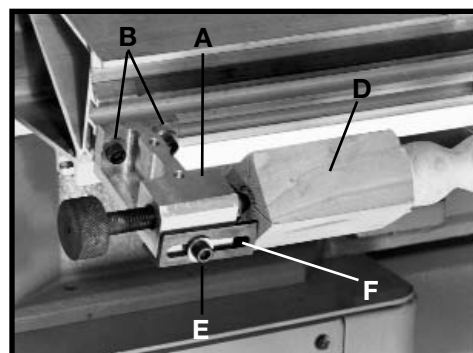

Fig. 74
2. The holding brackets, one of which is shown at (A) Fig. 74 can be moved to any area along the duplicator guide rail, depending on the size of the original turning or template. To adjust the holding bracket, loosen two hex head cap screws (B) and slide bracket (A) to the desired position along the rail, then tighten two hex screws (B).